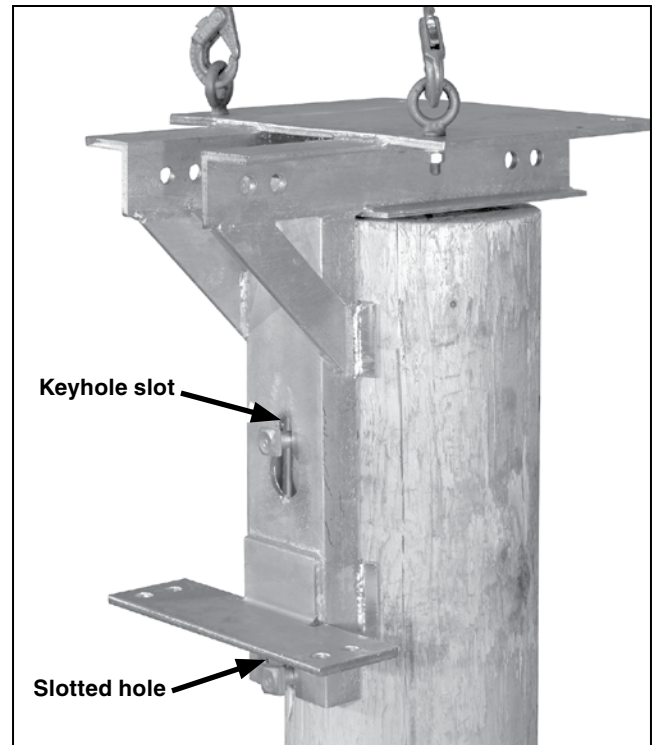

Figure 10. Hoist switch-mounting bracket.
- STEP 7.** Hoist and guide the switch-mounting bracket so the through-bolt heads enter into the keyhole and open slotted hole in the bracket. See Figure 10.